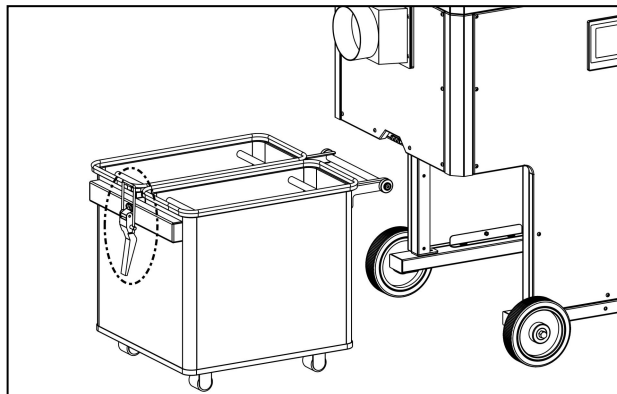

Fig.13
As shown in Fig. 13, release the handle and pull out the dust bin. After emptying the bin, push the bin back into the end of the cabinet and lock the handle.
6.1 Cleaning Dust Bin (Fig. 13)